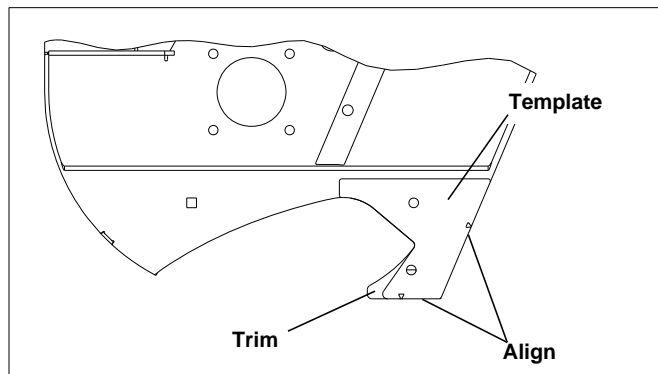

Figure 3-1
3. For 48" mowers with serial numbers prior to 11010000, the discharge opening will require modification. Align the supplied template with the front surface of the deck and edge of discharge opening. Figure 3-1 Mark the deck by tracing the inside edge of the template and trim the opening. Figure 3-1 Grind cut edges smooth and paint all bare metal.